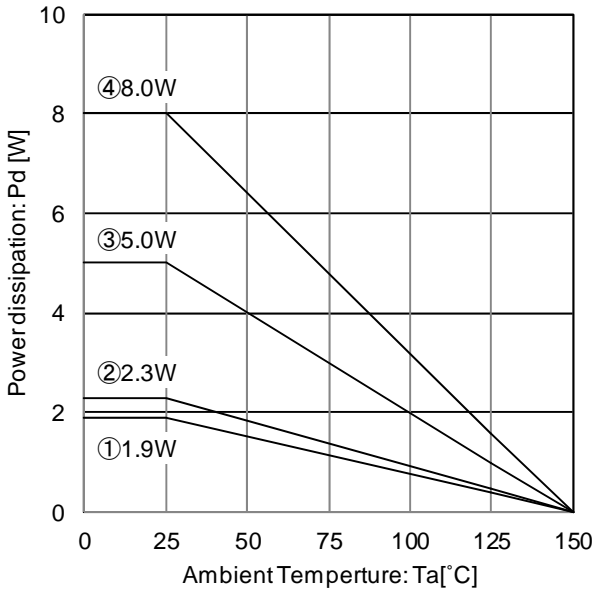

Figure 21. Package data of TO263-5F
Refer to the heat mitigation characteristics illustrated in Figure 21, 22 and the power dissipation under actual operating conditions should be taken into consideration and a sufficient margin should be allowed for in the thermal design. The amount of heat generated depends on the voltage difference across the input and output, load current, and bias current. Therefore, when actually using the chip, ensure that the generated heat does not exceed the Pd rating. Even if the ambient temperature Ta is at 25 °C, it is possible that the junction temperature Tj reaches high temperatures. Keep the whole operating temperature range within $T_j \leq T_{jmax}$.
- Calculation example : with TO263-5F package , $T_a = 105$ °C, $V_{CC} = 13.5$ V, $V_O = 5.0$ V, board ③ (Figure 21.)
In case of board ③ in Figure 21, $T_a = 105$ °C
At $T_a = 105$ °C with Figure 21 ③ condition, the calculation shows that 211 mA of output current is possible at 8.5 V potential difference across input and output.
- Calculation example : with T_c (bottom) = 80 °C, $V_{CC} = 13.5$ V, $V_O = 5.0$ V, $I_O = 200$ mA, board ③ (Figure 21.)